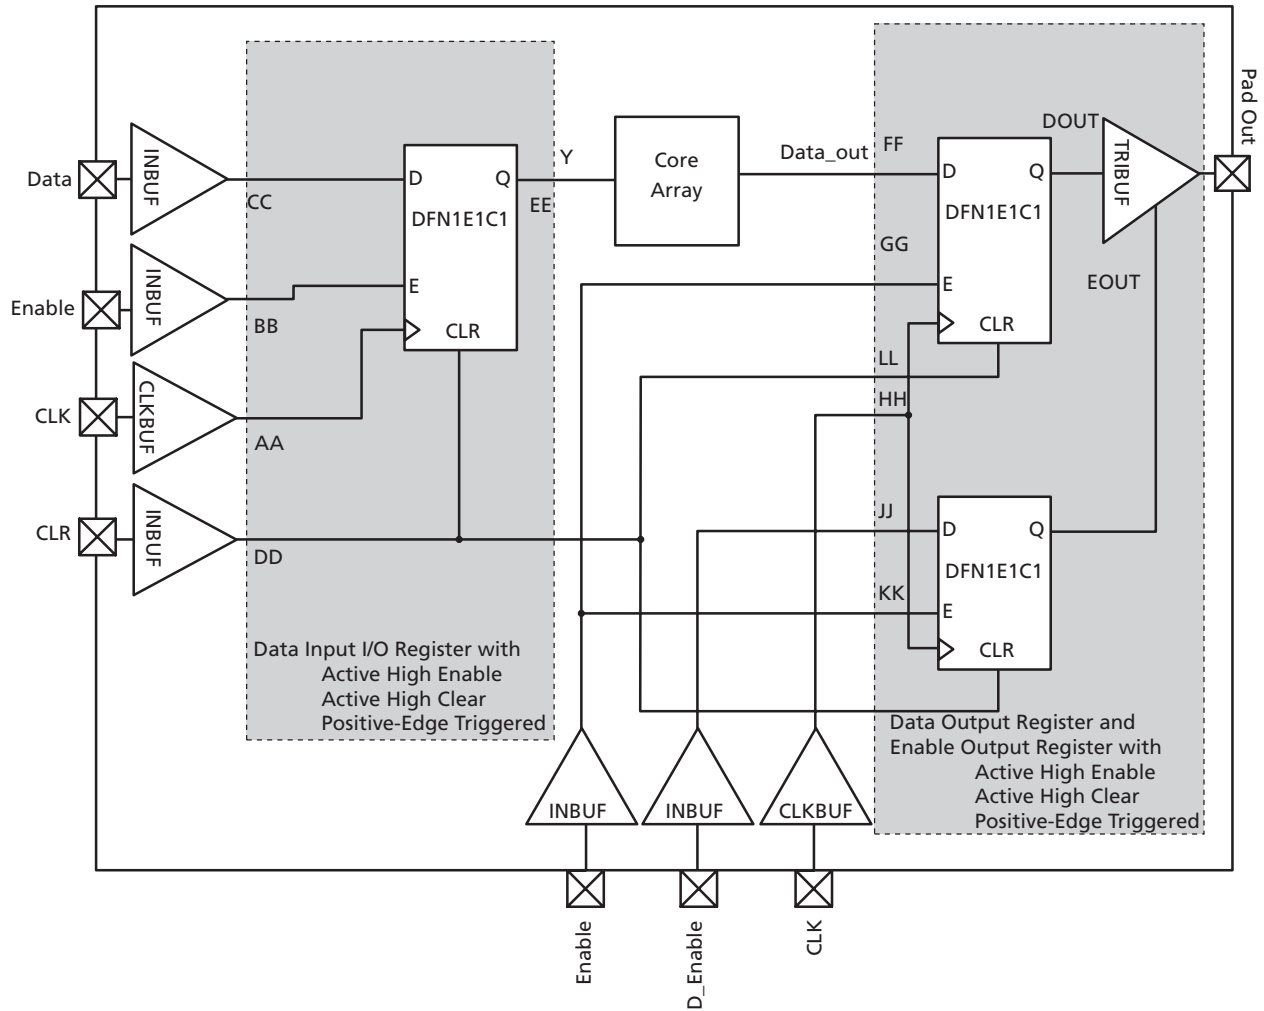

Figure 2-28 • Timing Model of the Registered I/O Buffers with Synchronous Enable and Asynchronous Clear
* See Figure 2-28 on page 2-85 for more information.